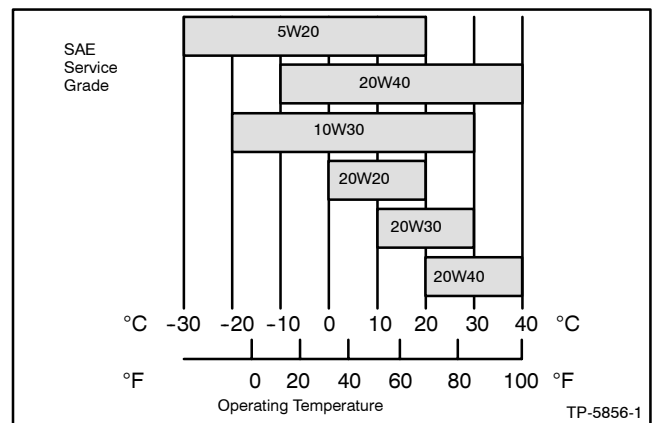

Figure 2-1 Engine Oil Selection
Use oil that meets the American Petroleum Institute (API) classification of CD, CC/CD, or CC. Using unsuitable oil or neglecting an oil change may result in damage and a shorter engine life. Figure 2-1 shows the recommended Society of Automotive Engineers (SAE) viscosity designation for given operating temperature ranges.
6. Fill the engine crankcase to the specified level with oil. The figures in Section 1 show typical oil fill locations. See Figure 2-1 for oil selection and Figure 2-2 for oil capacities.